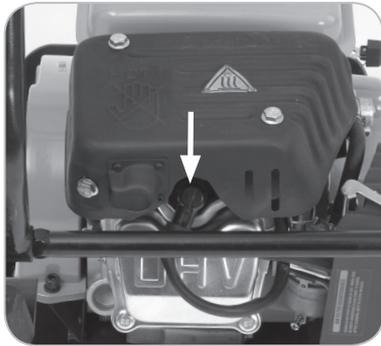

Fig. 13
- Using a spark plug socket (supplied) remove the spark plug. **(Fig. 13)**